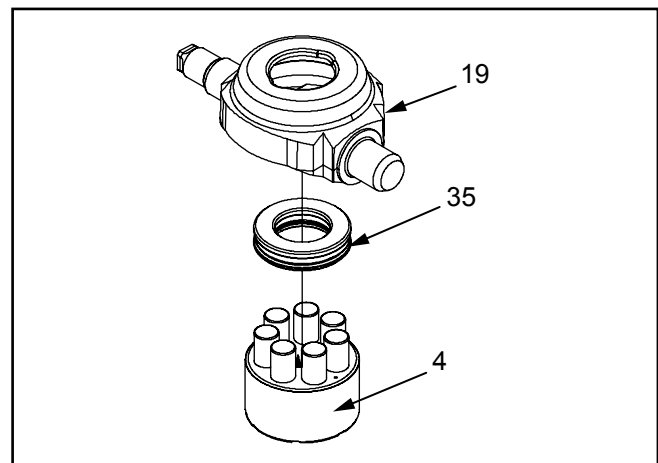

Figure 17.
8. **(See Figure 17)** Disassemble the pump cylinder block (4) from the swashplate (19).
12. **(See Figure 17)** Place the pump block assembly (4), pistons down, on top of the thrust bearing in the swashplate (19).